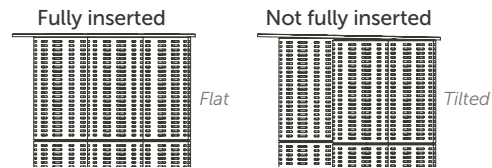

Figure 20.
- The cartridge hold-down plate will be tilted if any cartridge is not fully inserted, causing wing nut not to be flush with the hold-down plate surface, Figure 20. In this case, return to Step 2. Cartridge Assembly and press the cartridge deeper until it is fully inserted.